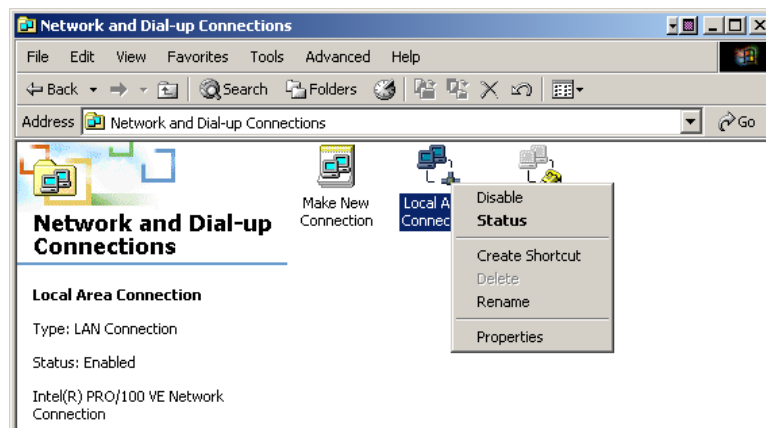

Figure 95: Network and Dial-up Connections
2. A list of network adapters appears. See Figure 95. The Local Area Connection adapter must be listed. If it is not, the network is not installed correctly.